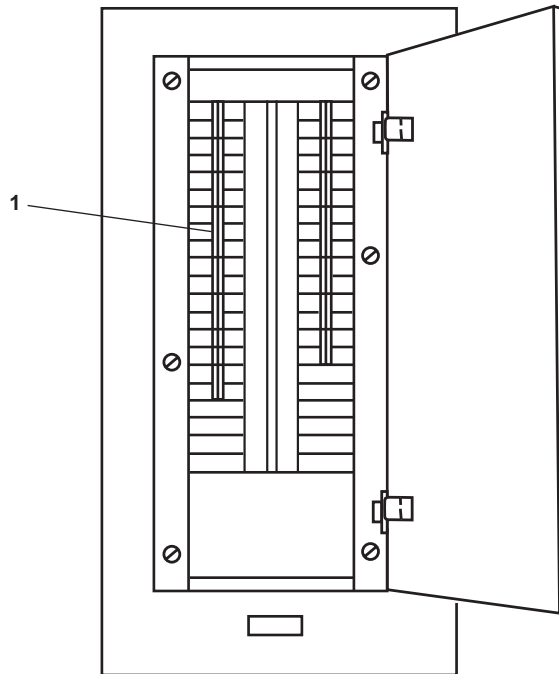

Figure 21. 120V Distribution Panel No. 2
8. At 120V distribution panel No. 2, set the 1 & 01 LEVEL CONVECTOR HEATER FUSE BOX No. 2. circuit breaker (figure 21, item 1) to OFF.